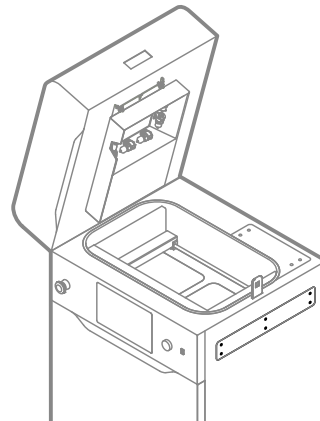

Fig. 13.73 Tighten back six screws of the access panel.
17. Using a 2.5 [mm] allen key, tighten back the six screws securing the access panel on the right side of the printer (fig. 13.73).